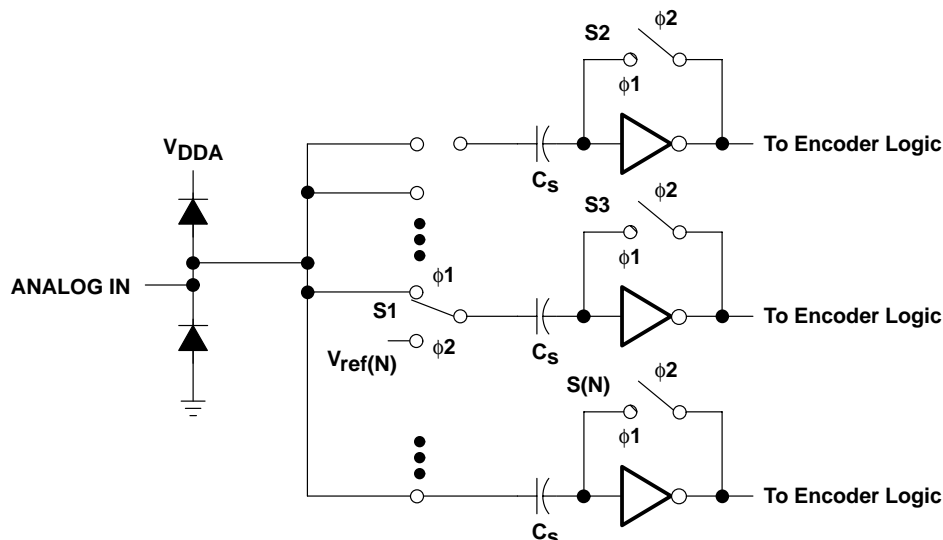

Figure 13. External Connections for Using the Internal Reference Resistor Divider
Figure 13 depicts the analog input for the TLC5540. The switches shown are controlled by two internal clocks, $\phi 1$ and $\phi 2$. These are nonoverlapping clocks that are generated from the CLK input. During the sampling period, $\phi 1$, S1 is closed and the input signal is applied to one side of the sampling capacitor, C_S . Also during the sampling period, S2 through S(N) are closed. This sets the comparator input to approximately 2.5 V. The delta voltage is developed across C_S . During the comparison phase, $\phi 2$, S1 is switched to the appropriate reference voltage for the bit value N. S2 is opened and $V_{ref(N)} - VC_S$ toggles the comparator output to the appropriate digital 1 or 0. The small resistance values for the switch, S1, and small value of the sampling capacitor combine to produce the wide analog input bandwidth of the TLC5540. The source impedance driving the analog input of the TLC5540 should be less than 100 Ω across the range of input frequency spectrum.